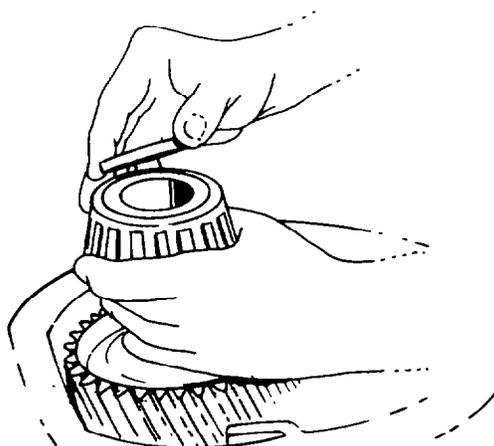

Fig. 261 — Installing the Bearing Cone and Spacer
- ad. Install the front drive shaft inner bearing cone (see fig. 261), and selective bearing spacer on the shaft.